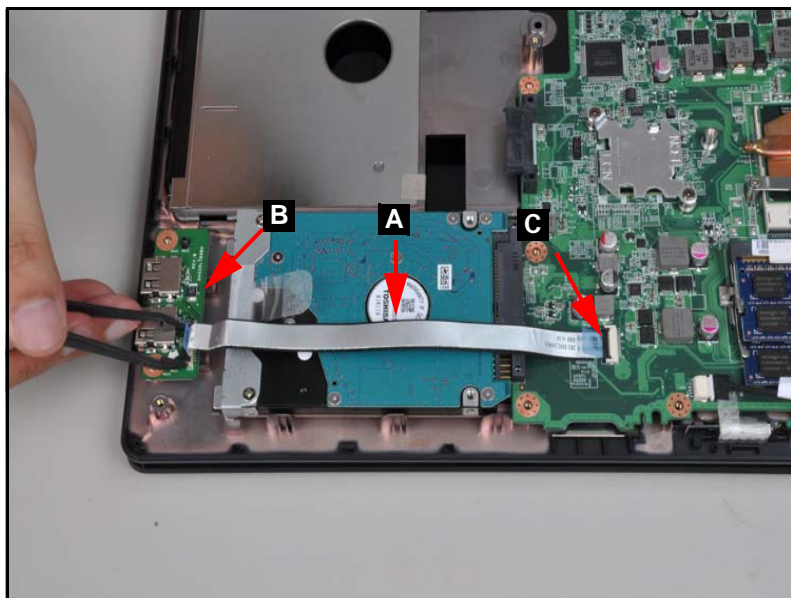

Figure 3-12. USB module
1. Disconnect USB module FFC (A) from USB module connector (B) (Figure 3-12).
2. Disconnect and remove USB module FFC (A) from mainboard connector (C)(Figure 3-12).
3. Connect USB module FFC (A) to module connector (B) (Figure 3-12).
4. Connect USB module FFC (A) to mainboard connector (C) (Figure 3-12).